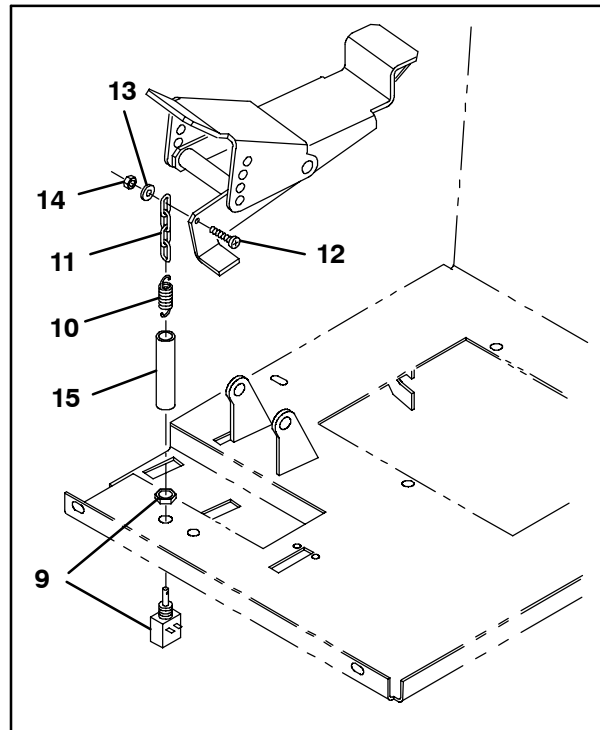

FIG. 11
25. Hook the spring (10) to the switch (9). Refer to Fig. 11.
26. Hook the chain (11) onto the other end of the spring (10). Refer to Fig. 11.
27. Slide the sleeve (15) onto the spring (10) and chain (11). Refer to Fig. 11.
28. Use a pan screw (12), a flat washer (13), and hex nut (14) to install the chain (11) onto the directional pedal. Refer to Fig. 11.